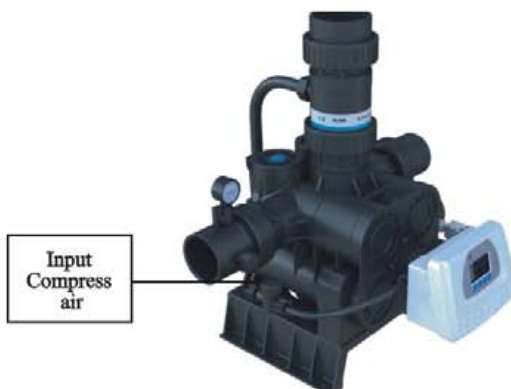

Figure 1-8
A. As figure 1-8 shows, install a voltage regulator air pump which has a function of oil removal in the system (The pressure is 0.6Mpa , and the pressure should be bigger than the inlet's), disassemble the connector between the contribution valve and the inlet pipeline, and make the pipeline connect with the air pump, then block the G1/2 female connector on inlet pipeline.